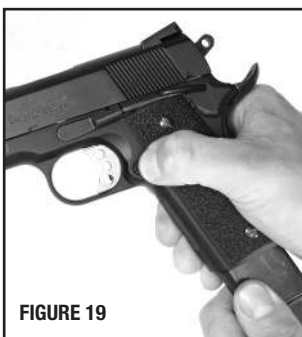

FIGURE 19
- Depress the magazine release, and remove the magazine. Place the safety lever into the down “fire” position (FIGURE 19).